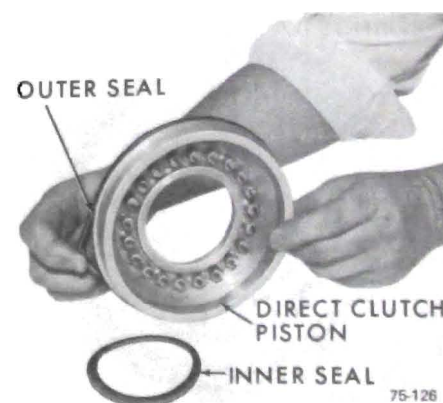

Figure 75-180
1. Install the direct clutch piston outer seal and inner seal. See Figure 75-180.